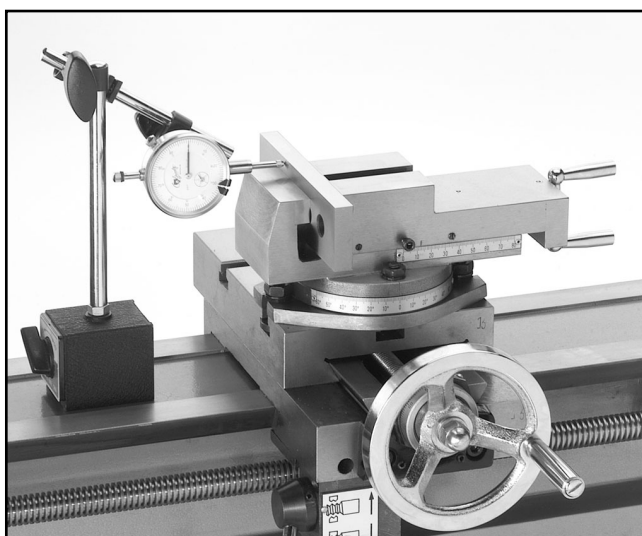

Figure 14. Aligning vise for precision.
3. Mount the drill chuck into the milling spindle and secure an indicator into it or, place a dial indicator mounted to a magnetic base on the bed as in **Figure 14**.